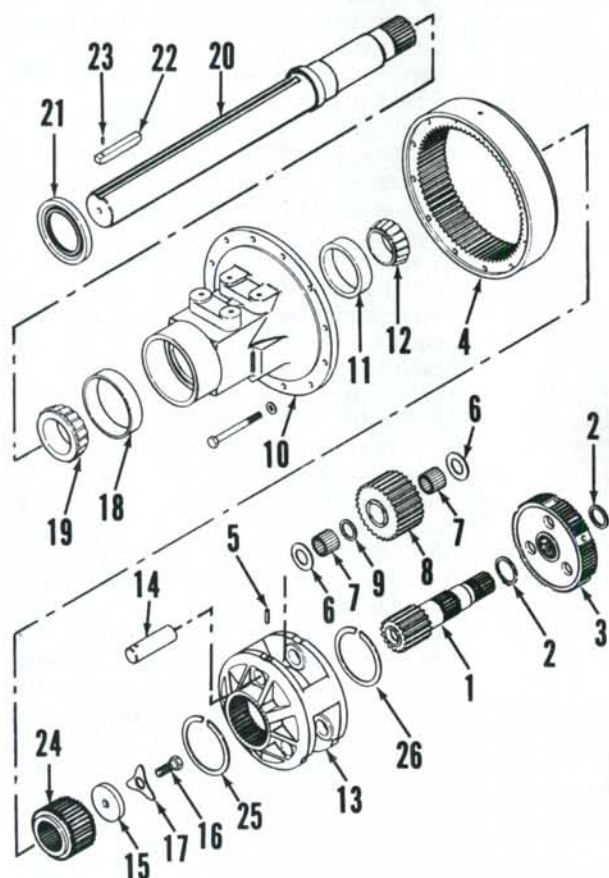

Fig. 187—Exploded view of final drive planetary and related parts used on Model 2594 and late 2394 tractors.
On Model 2594 and late 2394 tractors, remove snap ring (25—Fig. 187) and remove axle shaft hub (24) from carrier (13).
outer edge of housing. On Model 2594 and late 2394 tractors, install axle shaft hub (24—Fig. 187) in carrier (13) and secure with snap rings (25 and 26).